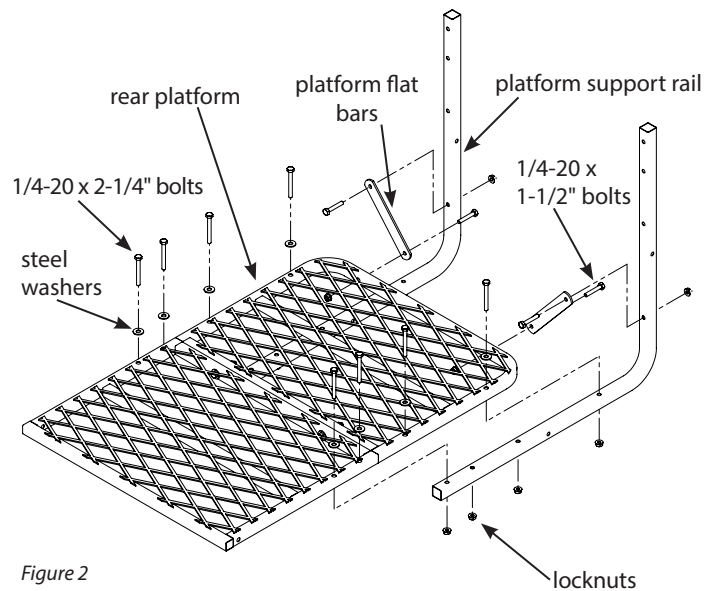

Figure 2
2. Attach the platform support rails (410055) to the bottom of assembled foot platforms using (8) provided 1/4-20 x 2-1/4" bolts, locknuts and steel washers. **SEE FIGURE 2.**
3. Attach the platform flat bars (1ML40) to the rear platform and platform support rails using (4) provided 1/4-20 x 1-1/2" bolts and locknuts. **SEE FIGURE 2.**